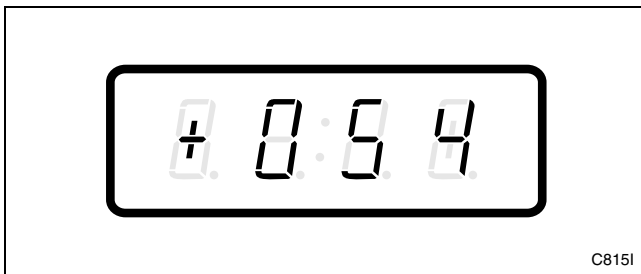

Figure 197
3. Press the DELICATES (+) or the COLD (-) keypad to scroll through the programmable options until “+054” appears in the VFD. Refer to *Figure 197*.